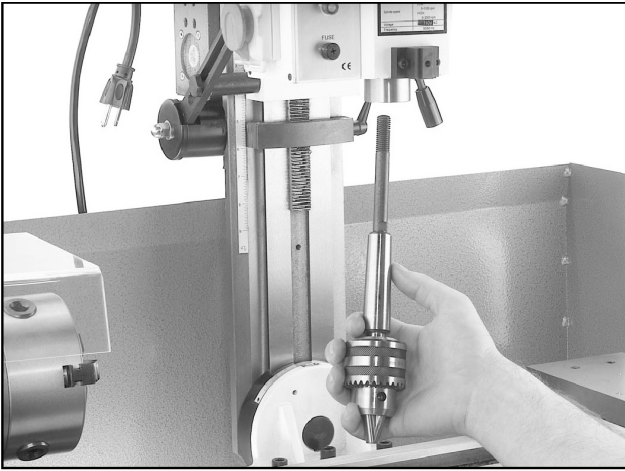

Figure 11. Removing drill chuck from spindle.
6. Hold the drill chuck with one hand and remove the draw nut and washer with the other hand. The drill chuck should now be easily removed from the bottom as shown in **Figure 11**.